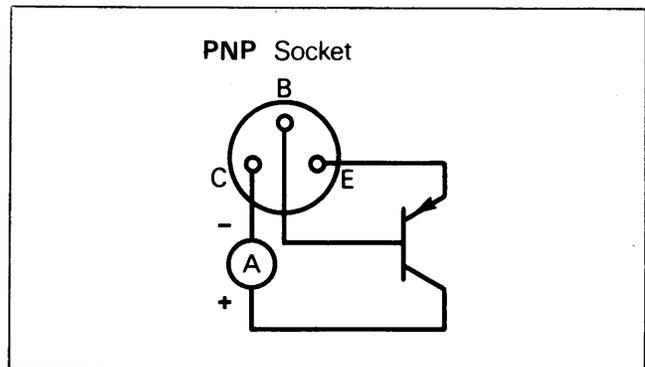

Fig. 13. Field calibration,  $f_r$  circuit.
- (e) Remove NPN Transistor and insert PNP Transistor into front panel socket labeled PNP (15) with current meter in series with the collector lead (See Fig. 13). Current measured should be between 9 and 11 milliamperes for proper operation.